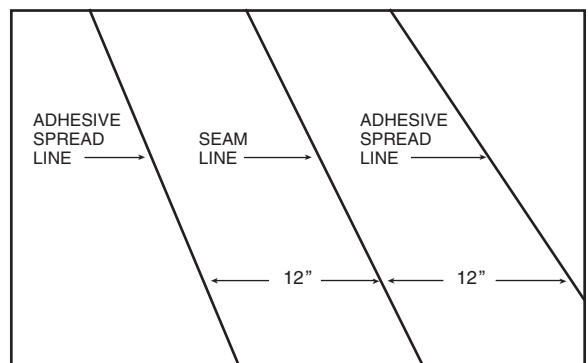

Fig. 16. Outside lines are a guide for adhesive spreading.
- After determining the best placement of seams in the room, mark the subfloor with a graphite pencil where each seam will fall. Then, snap parallel chalk lines (use white chalk) on either side approximately $12''$ (30.5cm) from the seam location; these will act as guides for adhesive spreading (Figure 16).